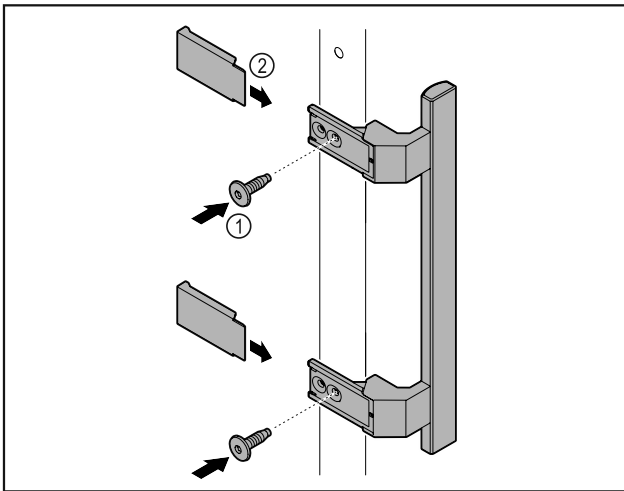

Fig. 8
- ▶ Attach handle from accessory kit to the door using supplied screws Fig. 8 (1).
- ▶ Put on cover Fig. 8 (2).